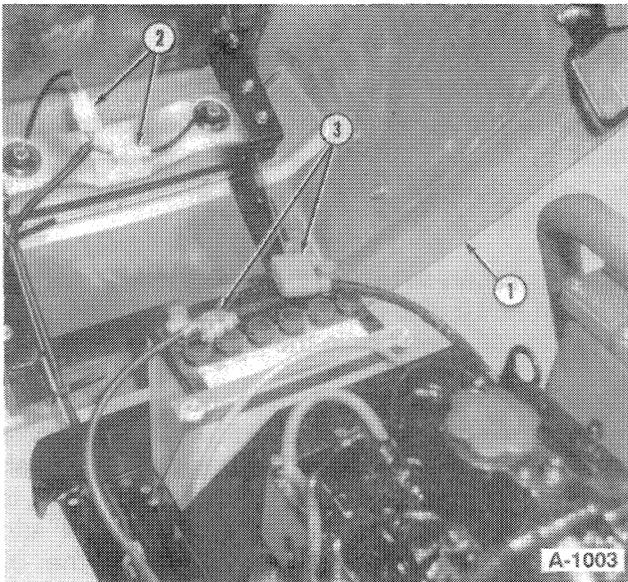

FIGURE 1-4
1. Raise the hood, 1, and disconnect the headlight wiring connector, Figure 1-4.
4. Disconnect the battery cables, 3, Figure 1-4 from the battery terminal posts.